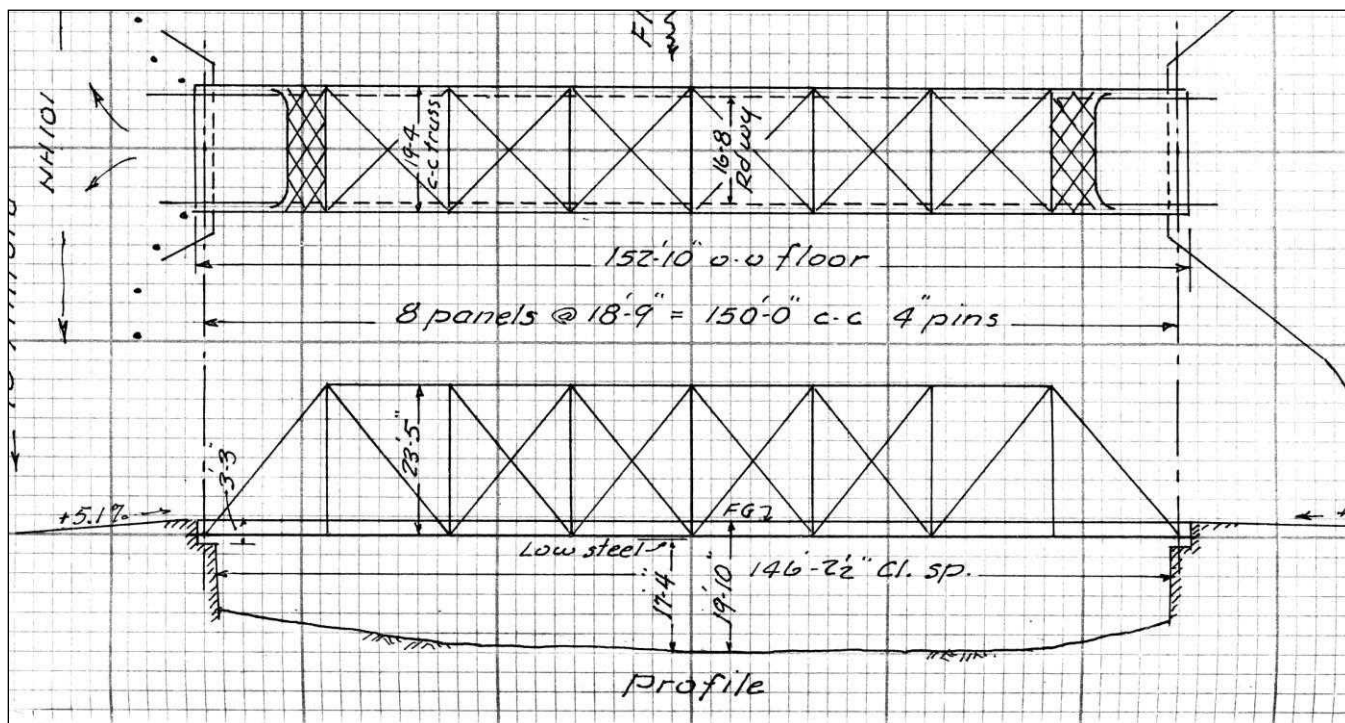

FIGURE 22: Milford 062/138, Jones Crossing Bridge over Souhegan River. Plan & elevation sketch (NHHD Bridge Inventory Card).
- FIGURE 22: Milford 062/138, Jones Crossing Bridge, 1910, drawing.